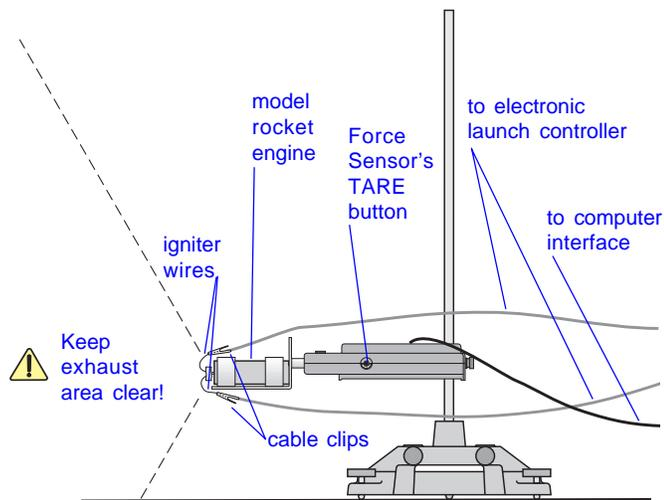

Figure 4
⚠ *Note: Do not allow the igniter wires or alligator clips to touch each other. Be certain that the safety key is not in the launch controller. Insure that the cables are well away from the exhaust area (Figure 4) and the computer interface is as far away from the exhaust area as possible.*
- Press the TARE button on the Force Sensor (Figure 4).